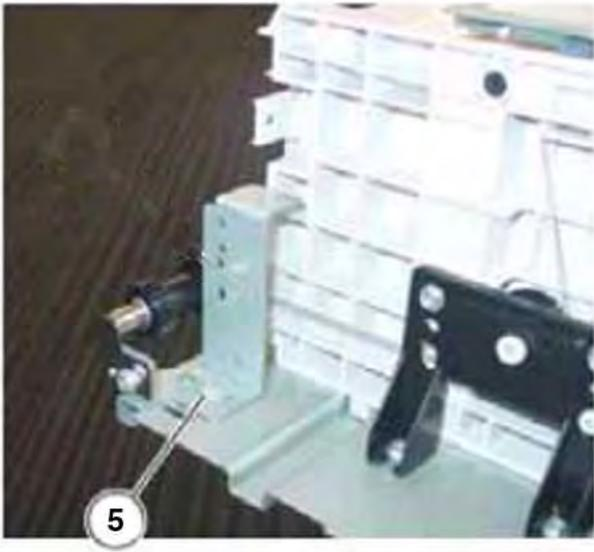

Figure 3 Bracket Removal
5. Remove the Screw (1) and Bracket (Figure 3).